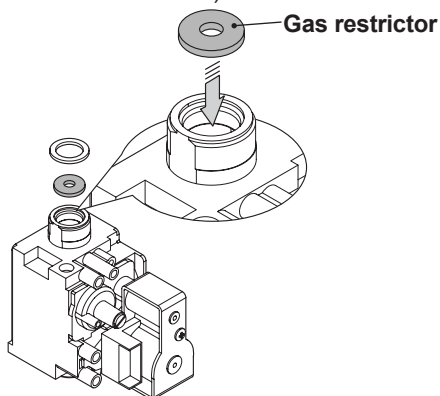

Fig. 9.2
- Carry out gas conversion by correctly replacing the gas restrictor (Fig. 9.2), referring to the "Technical Data" section (page 26 **ADVANCE 25C**).